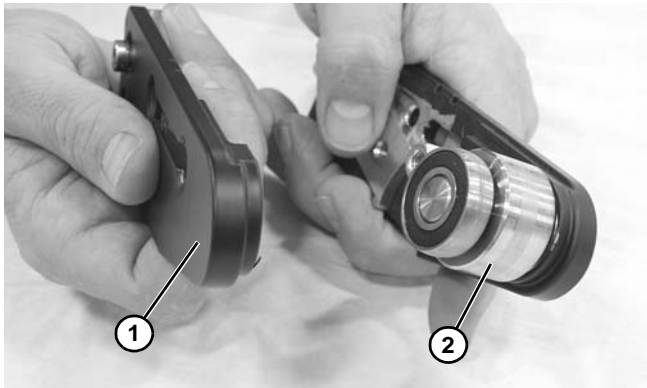

Figure 59
4. Remove the head plate (**Figure 59, item 1**) and remove the spindle (**Figure 59, item 2**).